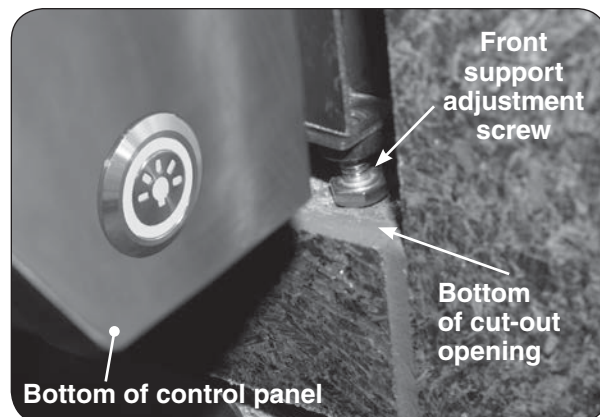

Fig. 21-3 Front support adjustment screws
6. Rotate the front support adjustment screws to the left to raise and to the right to lower the respective side of the appliance griddle. Use a $\frac{7}{16}$ " open-end wrench as needed. See Fig. 21-3.